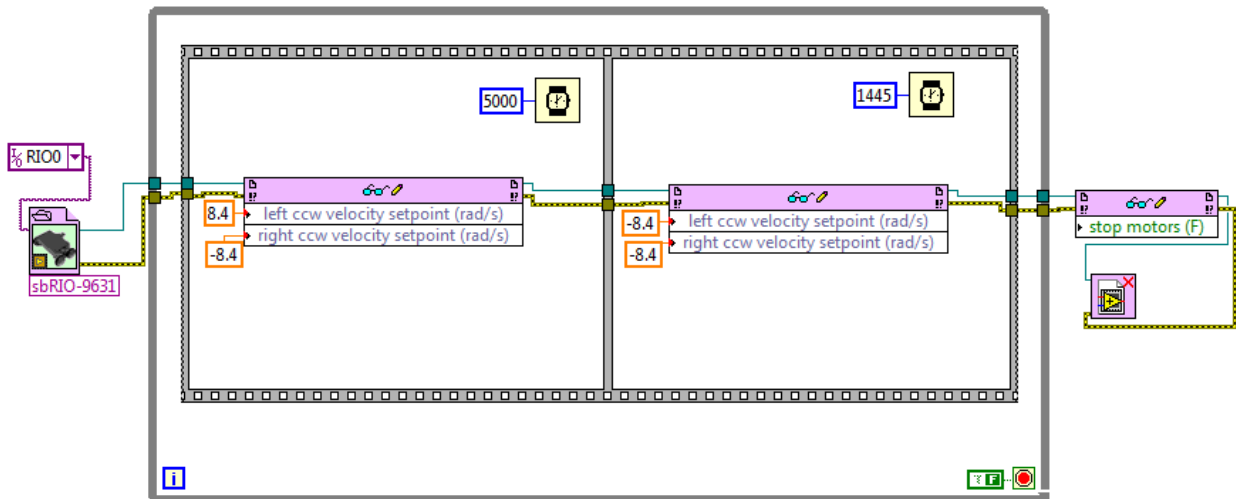

Figure 2.11
Step 10: Connect an error wire as shown in figure 2.11